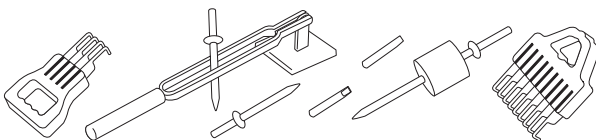

Figure 505.3
- You have a choice of five pulling methods and a shrinking tip (Figure 505.3). The damaged area will be determined which electrode is to be used. Heavily damaged panels or long creases can be repaired using the wiggle wire in conjunction with the bear claws. Pulled by hand with the four finger or mechanically with the nine finger claw. By using the Bear Claws your pull power is spread over a wider area. The quality of finish you want will determine how and with which pull rod you finish the metal. It is possible by carefully pulling and shrinking to finish a panel repair and not have to use a dolly or hammer, only a file.